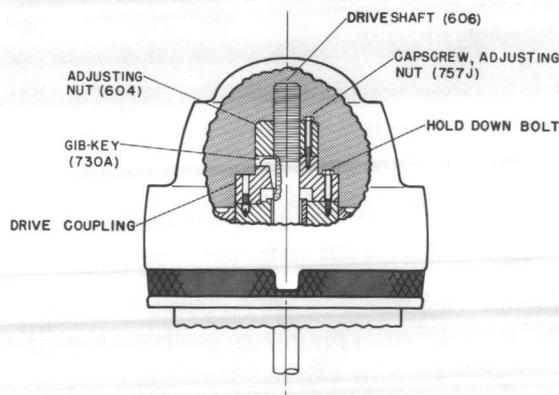
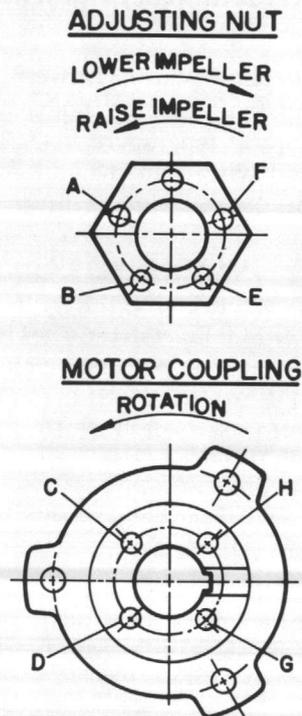

Figure 10-1 Hollow Shaft Adjusting Nut
Figure 10-2 Impeller Adjustment
A. Remove driver cover and drive coupling. (SEE FIGURE 10-1).
D. Slip on driver coupling (SEE FIGURE 10-1). Apply a thin film of oil on gib key (730A) and install key. Key shall be a slide fit allowing adjustment of the drive shaft by means of the adjusting nut. Secure drive coupling, see that the drive coupling is properly seated. Install adjusting nut (604), but do not adjust impellers at this time.
A. With impellers touching bowl faces, turn adjusting nut (604) counterclockwise until face of the nut makes contact with motor coupling.
B. Align hole "A" in adjusting nut and hole "C" in motor coupling. (SEE FIGURE 10-2).